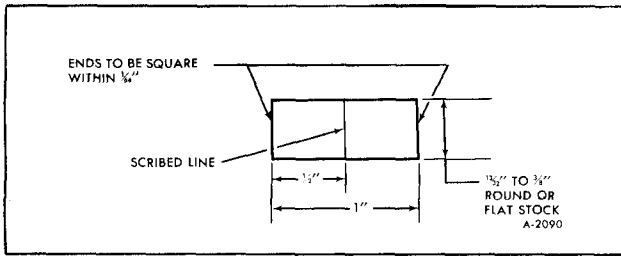

Figure 24—Vacuum Modulator Test Gage
3. **Bellows Comparison Check.** Make a comparison gage, as shown in Figure 24, and compare the load of a known good Hydra-matic modulator with the assembly in question. Modulator Tension Tester such as J-24466 may also be used for this purpose.